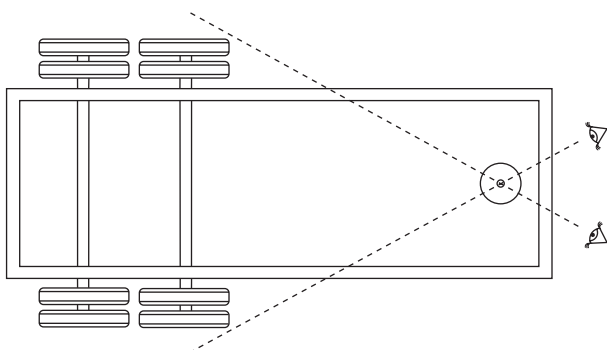

Figure 13. Checking for measurement obstructions
1. From a position at the front of the trailer, sight along a line under the trailer from the kingpin to each end of the front axle (figure 13).